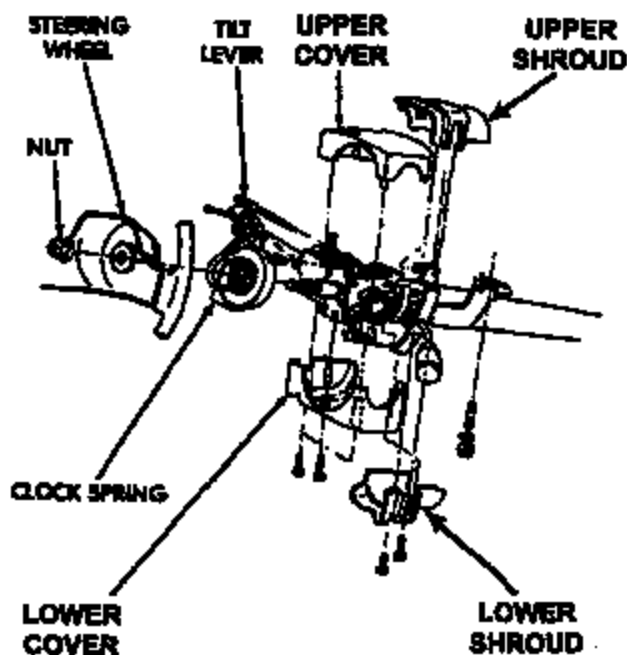

Figure 4
4. Remove the upper and lower steering column covers (Figure 4).
5. Remove the lower steering column shroud (Figure 4).